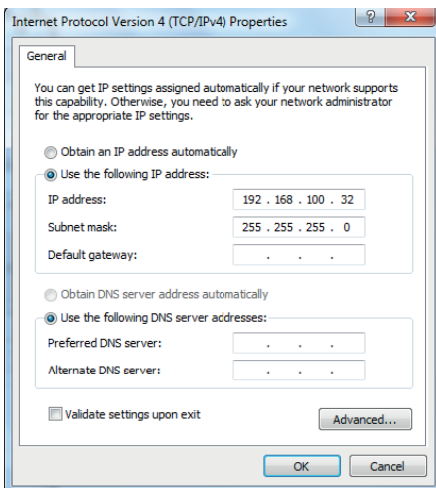

Fig. 9: Changing IP address
5. Select *Use the following IP address* and type an individual one that is within the same subnet range as the cameras (Fig. 9).